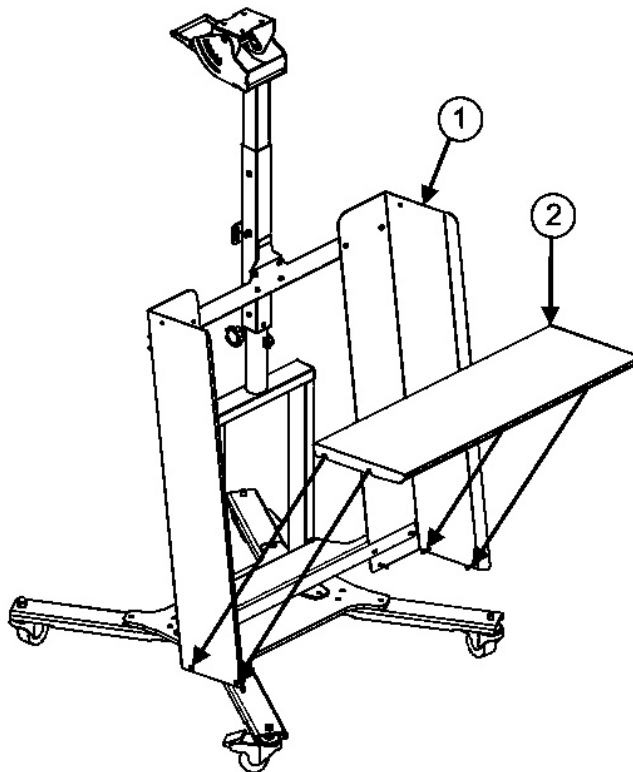

Figure 11 Paper Tray Base
10. Ensure that the stand is positioned on a level surface and lock the brakes of the four casters (refer to Figure 11) to ensure the stand stays in position while assembling the head on the stand.